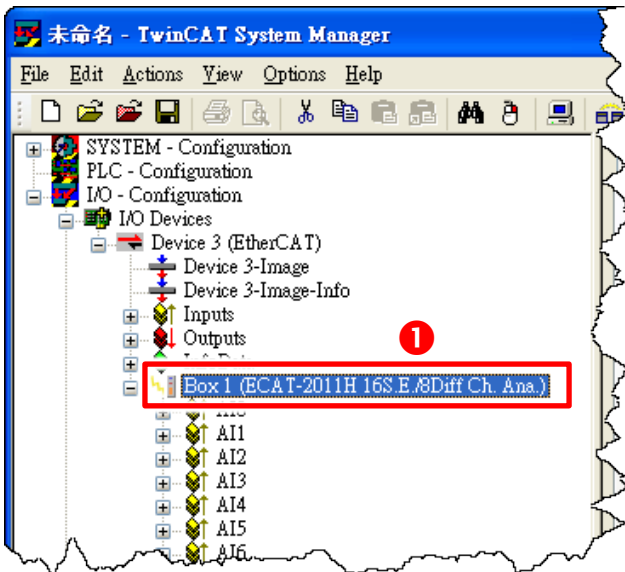

Figure 3-3.3
- ❶ In the left-hand window, click the “**Box 1 (ECAT-2011H 16S.E./8Diff Ch. Ana.)**” item. (See Figure 3-3.3)